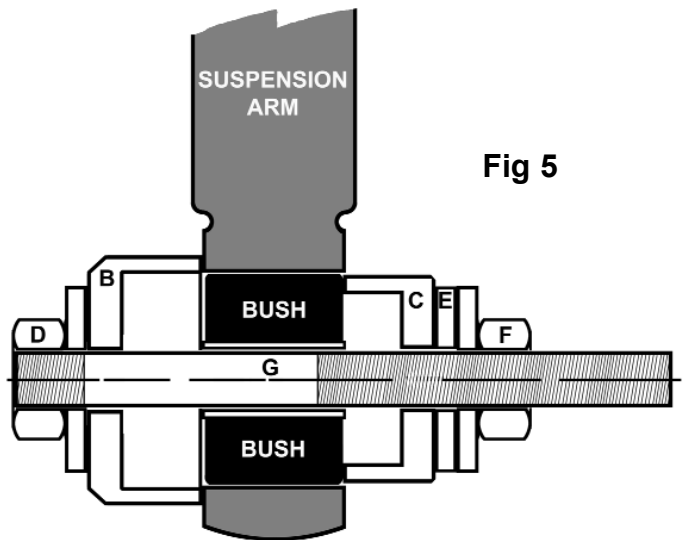

Fig 5
- 3.2.4. Hold nut D with a spanner and then place a second spanner over the nut with washer attached (F). This should preferably be a ratchet ring spanner for ease of use and maximum accessibility. As the nut is turned insertion will commence as indicated in fig.5. Take care not to drive the bush too far into the suspension arm. Cease insertion when the bush is fully inserted into the arm as shown in fig.5.